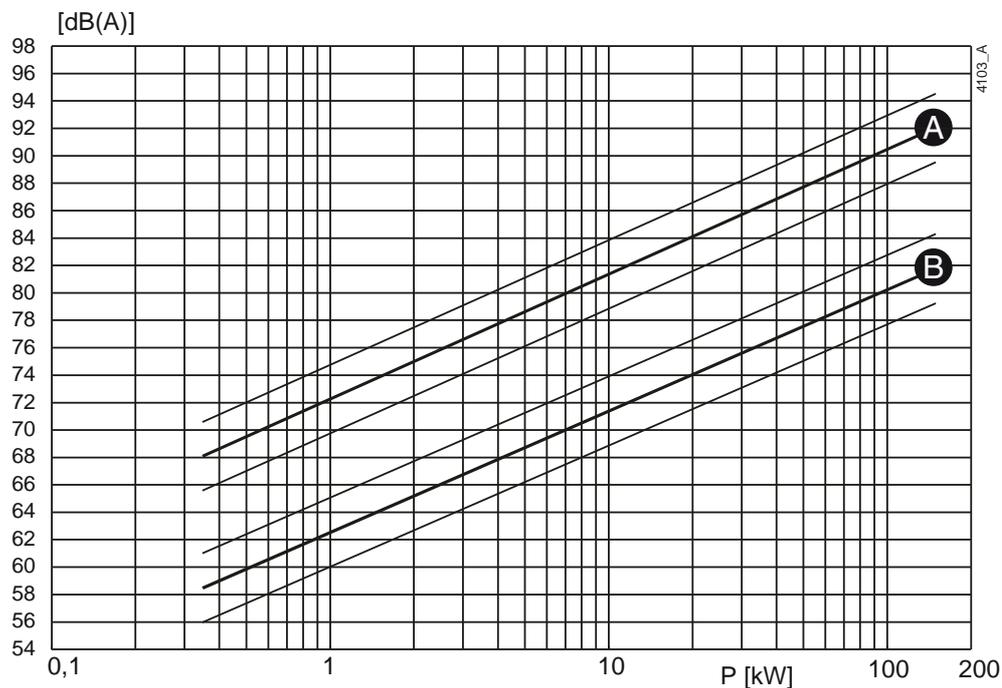
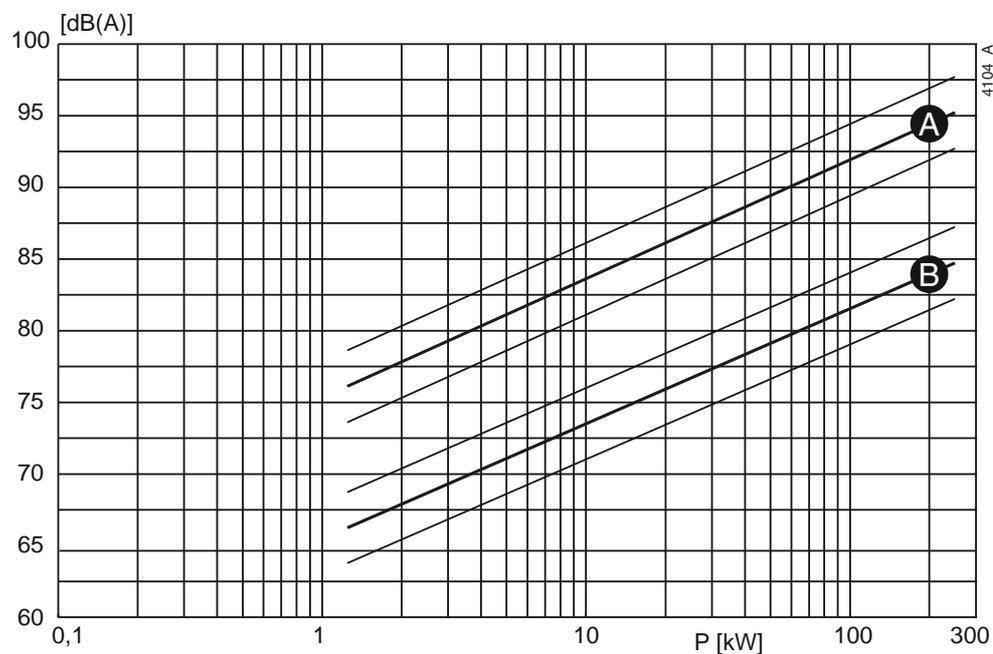

Figure 43: Noise level as function of pump power [kW] at 1450 min⁻¹
Figure 44: Noise level as function of pump power [kW] at 2900 min⁻¹
- 1 Determine the noise level (L1) of the pump, see figure 43 or figure 44.